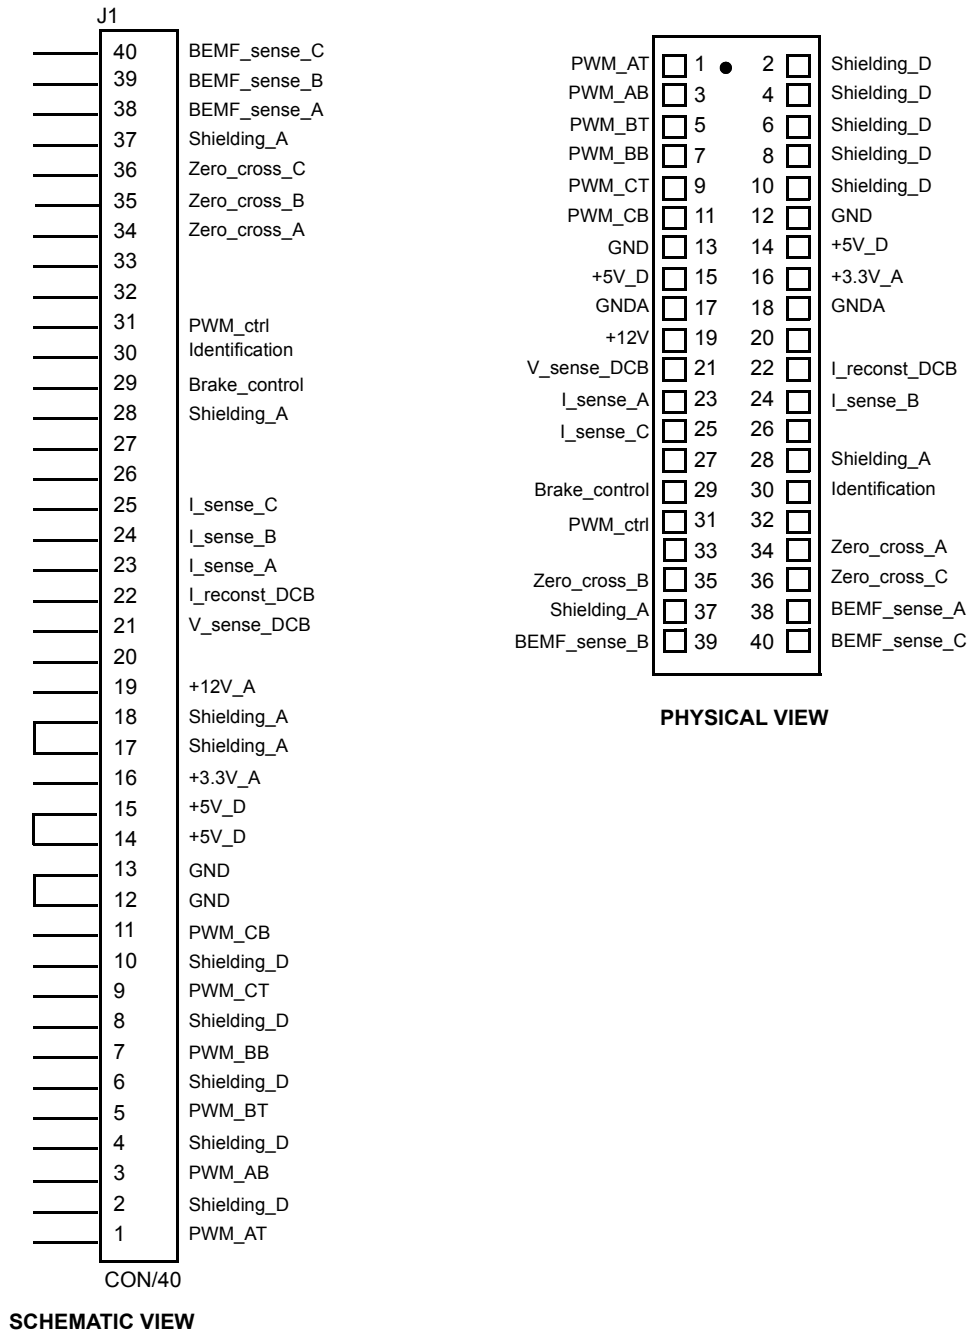

Figure 3-1 40-Pin Input Connector J1
- Pin assignments are shown in Figure 3-1, and a pin-by-pin description is contained in chapter 3.3.
Input connections are made via a 40-pin ribbon cable connector J1. Pin assignments for the input connector are shown in **Figure 3-1**. Power connections to the motor are made on one of the output connectors J2 or J4 or FASTON type (J5 J7 J8). Phase A (J8), phase B (J7), and phase C (J5) are labeled on the board, the phase pin order for all three connector types is identical. Power requirements are met by a single external 12-Vdc power supply. Two connectors, labeled J3 and JP4, are
output connectors are shown in **Figure 3-1** with their descriptions in **Table 3-1** through **Table 3-5**.
Signal inputs are grouped together on 40-pin ribbon cable connector J1, located on the right side of the board. Pin assignments are shown in Figure 3-1. Pin descriptions are listed in Table 3-1.